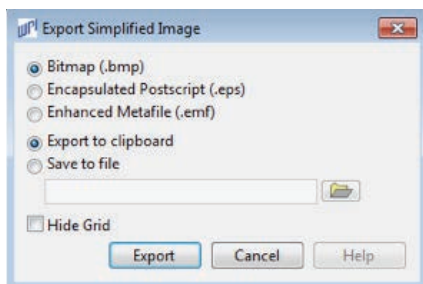

Fig. 61—The *Export Simplified Image* file lets you determine how the image exports.
1. Right click on a graph in the chart area (of the *Analysis* window) to display the popup menu. Select the **Export** submenu and choose **Export Simplified Image**. The *Export Simplified Image* window appears (Fig. 61).